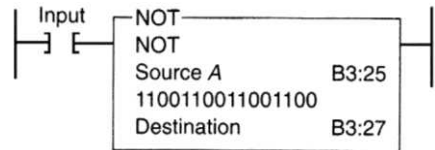

Figure 4-18 Instruction for question 36.
36. What will be the data stored in the destination address B3:27 of Figure 4-18 when the input is true? 36._____